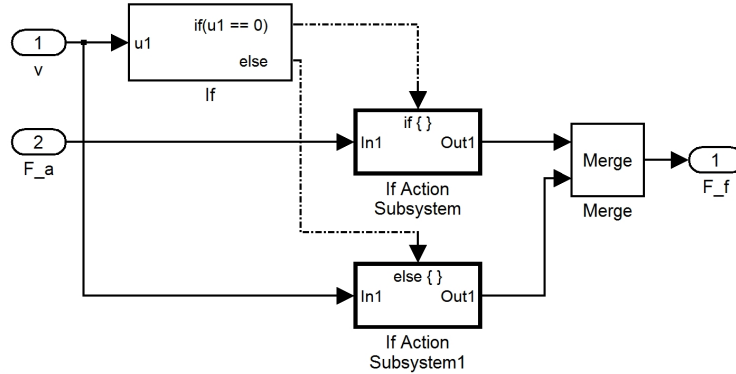

Figure 3: Setup for implementing Karnopp's friction model with event detection
- (b) Implement Karnopp's friction model in the setup in Figure 3, that is, fill in the two If Action Subsystems. Note that the if-block (by default) generate events when the if-clause changes. The Merge-block can be found under Signal Routing, and the If Action Subsystems under Ports & Subsystems.